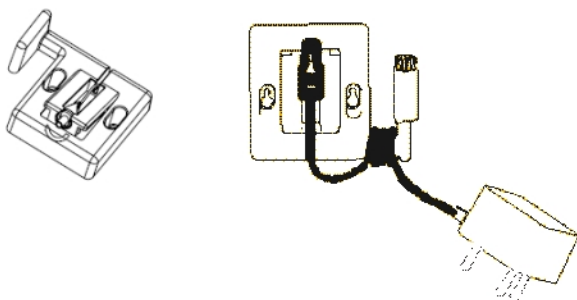

Fig.4
- Wind any excess cord around the charger assembly. Pass the cord through the groove. (fig.4)